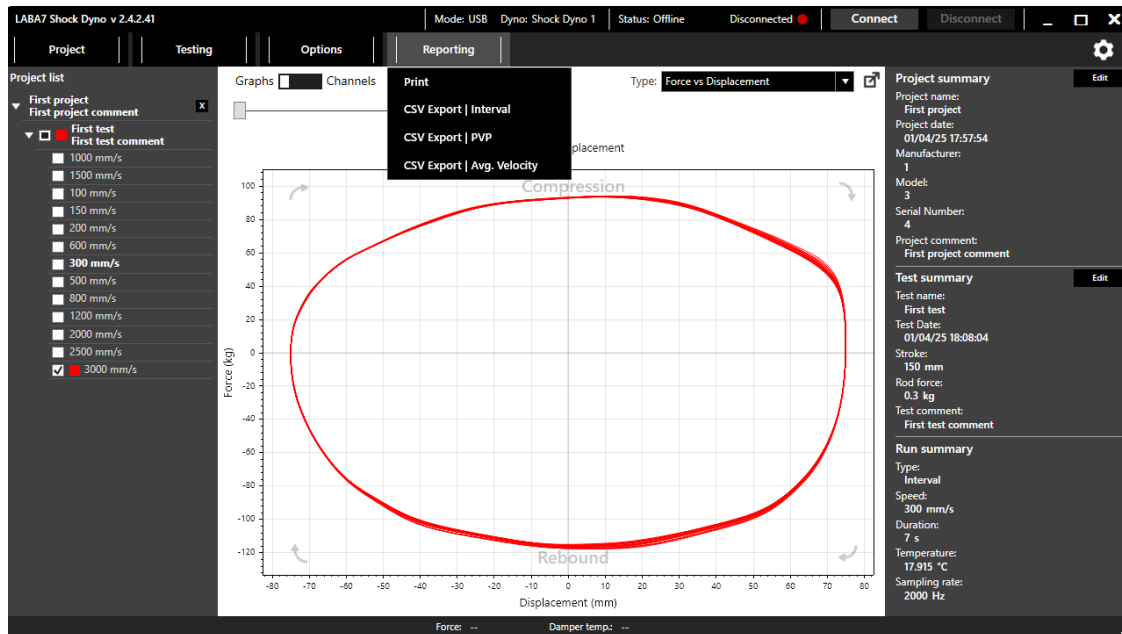

Figure 46
2. Press reporting (figure 46).
2. Press “reporting” (figure 46).